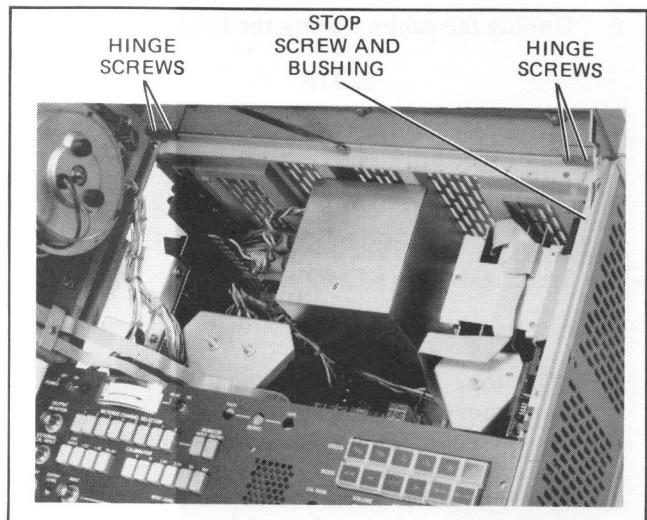

Figure 5-33. Reel Cover Removal
b. Remove the outside screws from each hinge (see Figure 5-33).